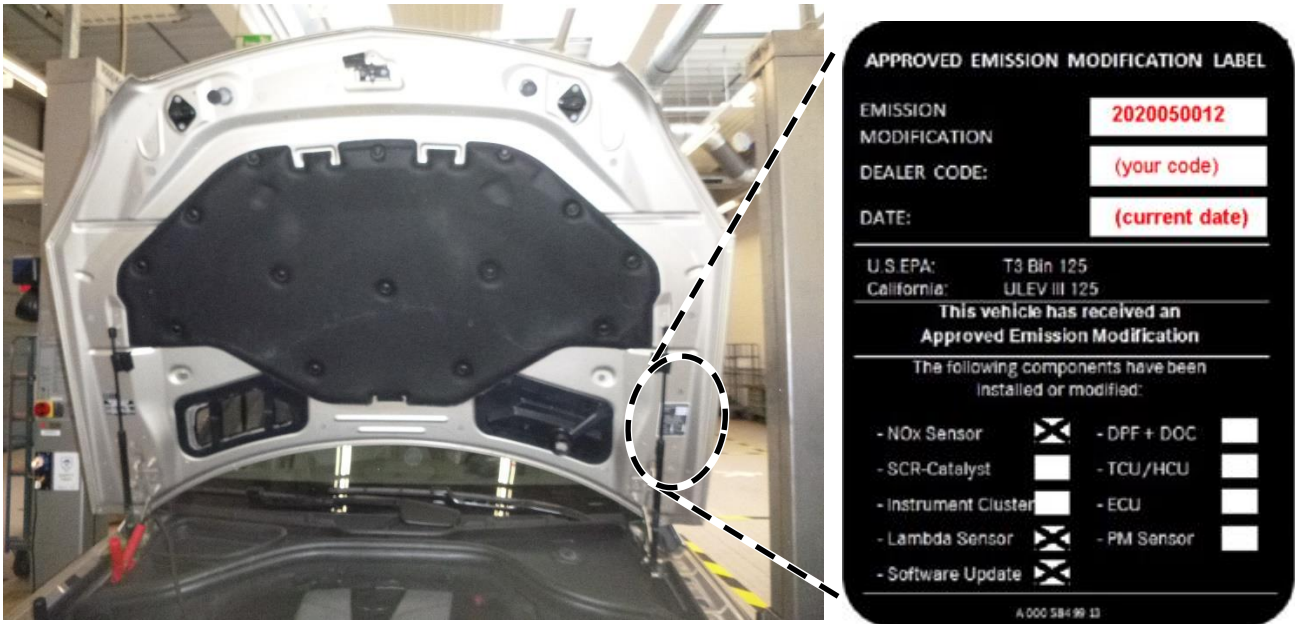

Figure 9
11. Clean the bonding surface of the hood and attach the AEM-label (**Figure 9**).